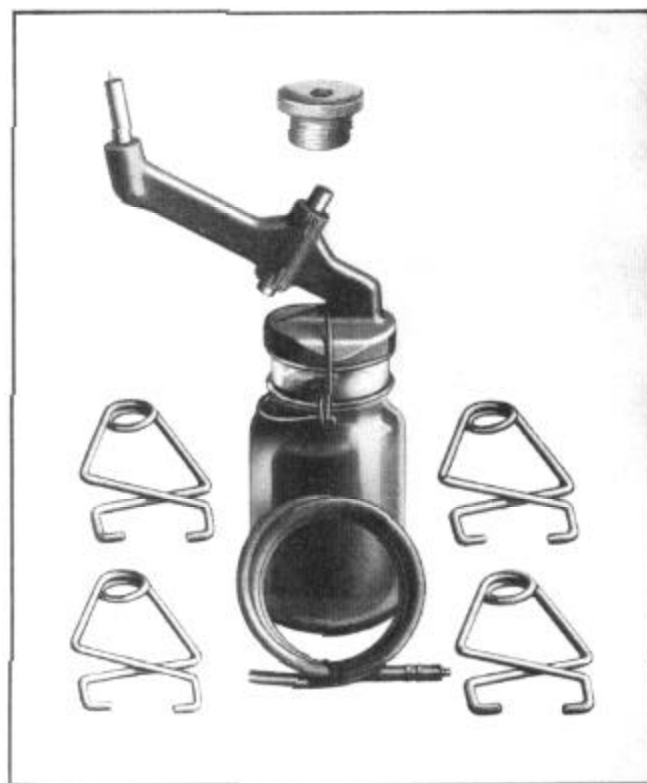
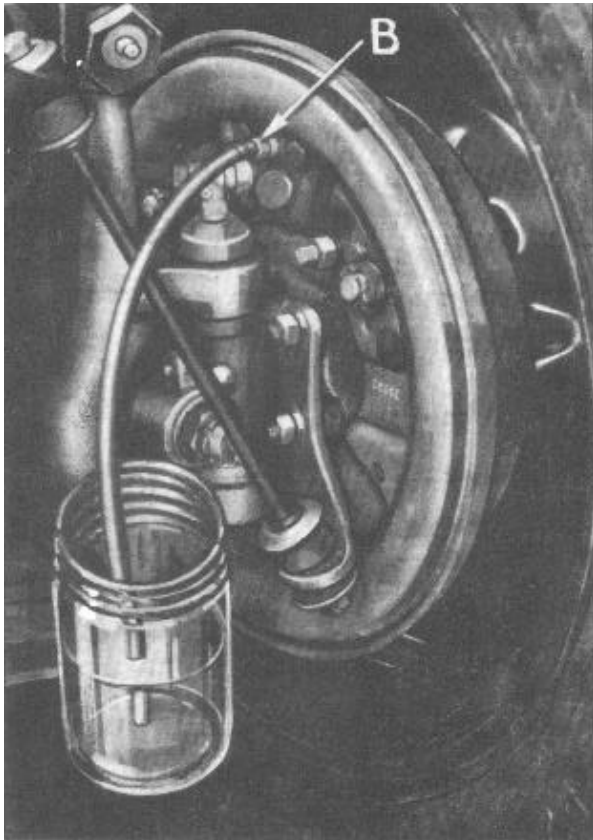

Figure 8--Filling and Bleeding Equipment
Figure 9--Bleeding Wheel Cylinder
1. Fill the bottle J 713 Figure 8 using
3. Remove screw, Figure 9, from end of bleeder valve and attach bleeder tube (J 628) Figure 8. Allow tube to hang in a clean container partly filled with fluid such as a pint Mason jar.
4. Unscrew bleeder valve (B), Figure 9, three fourths of a turn and depress foot pedal by hand, allowing pedal to return to released position slowly. This gives a pumping action which forces fluid through the tubing and out at the wheel cylinder carrying with it any air that may be present.